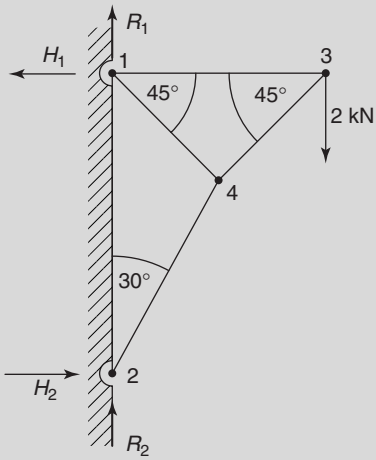

Figure A1.2
10. Determine the unknown internal forces in the pin-jointed truss of Figure A1.2. (12)